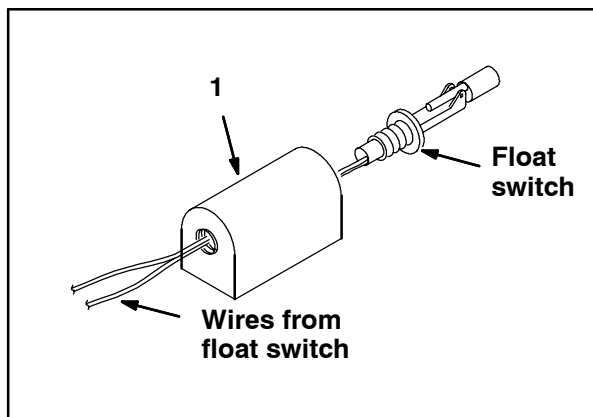

FIG. 5
3. Route the float switch wires through the hole in the float switch protector bracket (1) and orient the mark to 12:00 inside the float switch protector bracket. Refer to Fig. 5.